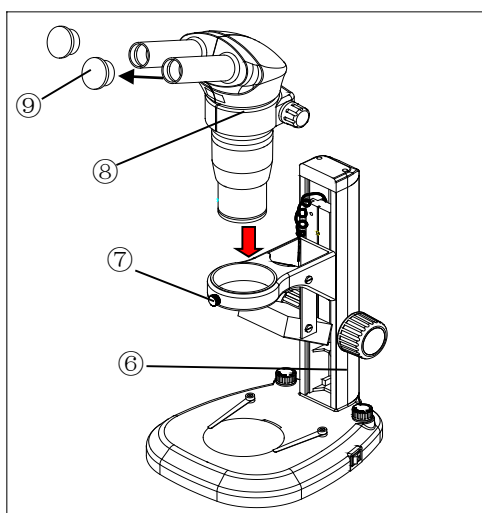
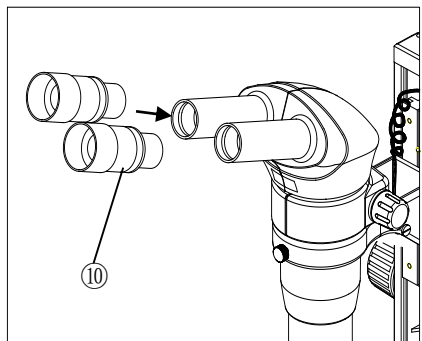
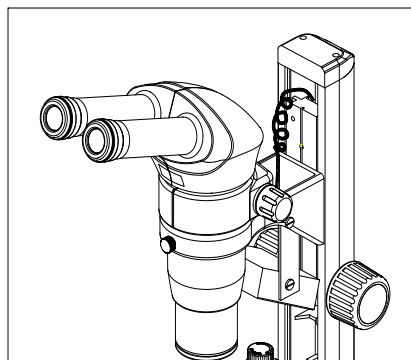

Fig.3
Fig.4
Fig.5
2.2.2. Mounting binocular head (Fig. 3)
2.2.3. Mounting eyepieces (Fig. 3, Fig. 4, Fig. 5)
1. Remove the eyepiece dust caps ⑨ and gently insert two adjustable eyepieces ⑩ into the eyepiece sleeves until they stop, as in Fig.4.
Use with eye shades in their normal folded-down position. This will prevent eyeglasses from being scratched by the eyepiece as in Fig 5.